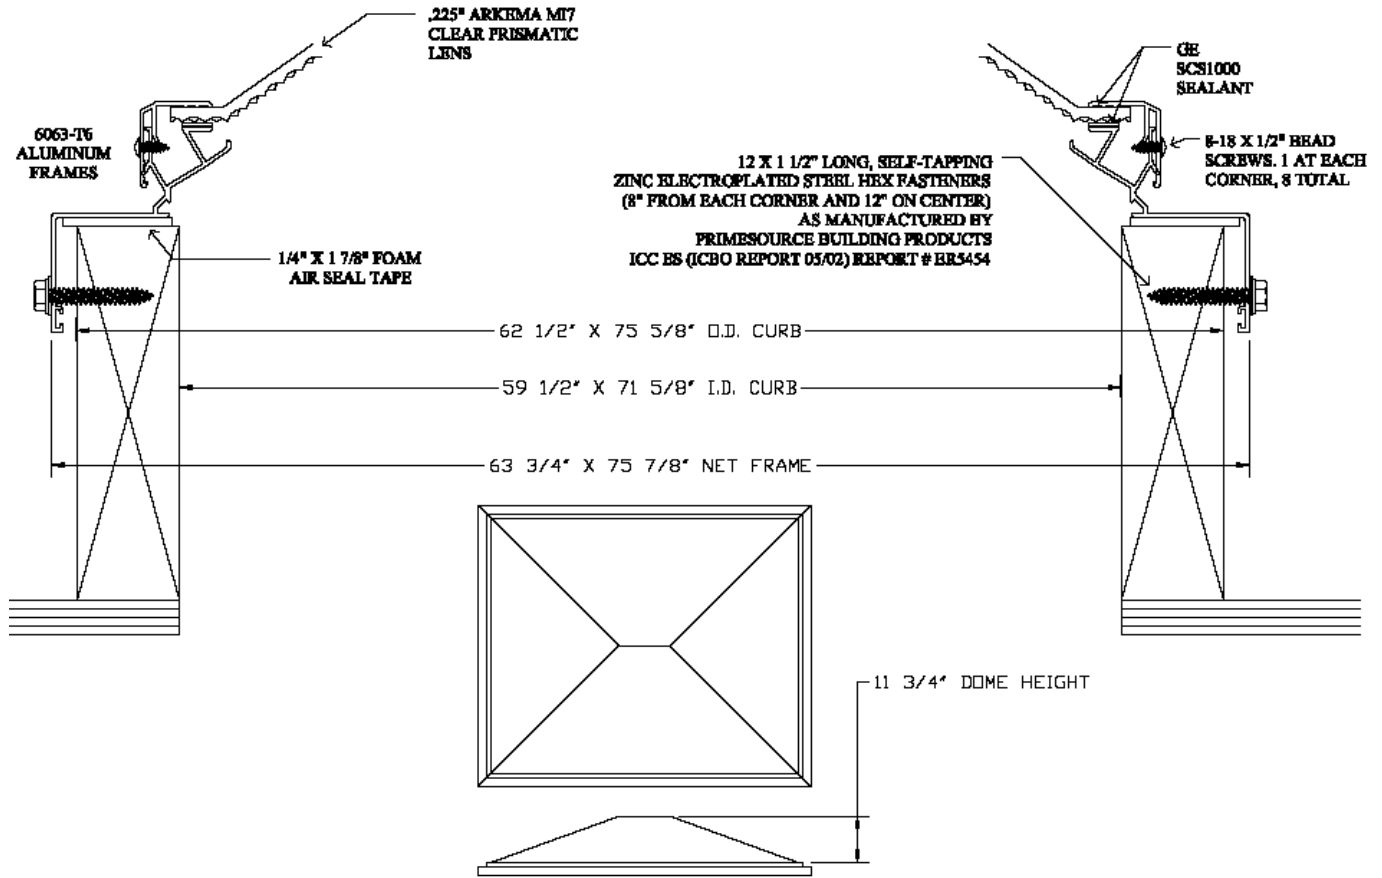

FIGURE 1 – 5060 MODEL 800MD DOUBLE HIP
3.2 The single glazed *Signature* and *Double Hip* skylight forms use prismatic lenses of Class CC2 extruded acrylic plastic. Glazing materials and their associated thicknesses are as outlined in Table 1. An aluminum curb frame is mounted to a wood curbing, using No. 12 X 1-½ inch long hex washer head screws to form the base of the skylight assembly. Airseal foam neoprene gasket tape is utilized between the horizontal mating surfaces of the wood curb and the aluminum curb frame. The plastic glazing is mounted on top of the curb frame using GE SCS1000 Silicone or Manus-Bond 75-AM sealant. An aluminum thermal break frame is assembled over the glazing and engages the lower aluminum curb frame in a "snap-on" arrangement. No. 8 x ½ inch wafer modified truss head screws are installed to secure the aluminum pieces. Additional details of the skylight assemblies are shown in Figures 1 and 2. Further details of materials utilized in the assembly are as follows: